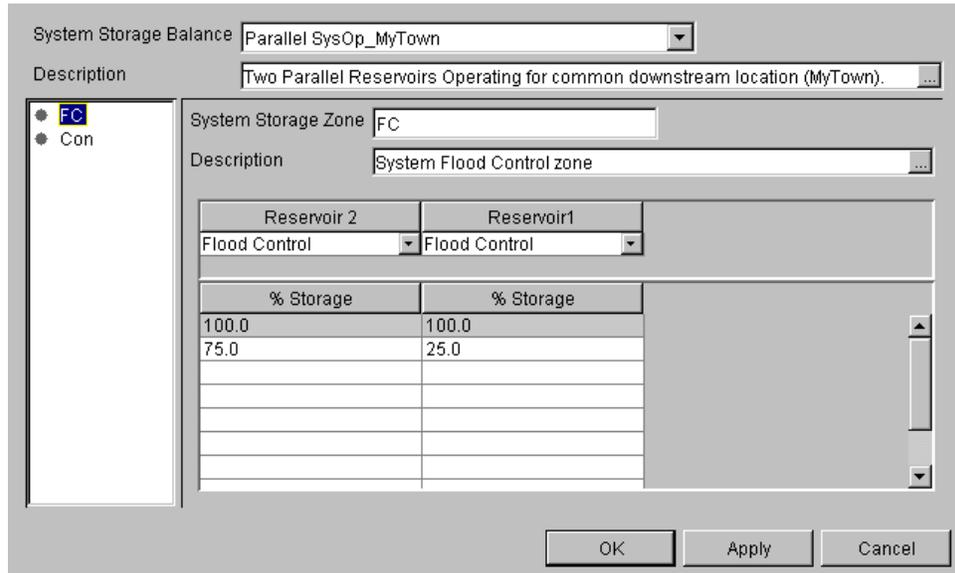

Figure 12.19 Configuring System Storage Balance
When you have defined at least one system storage zone for your reservoir system, its name will appear in the white pane at the bottom left of the **Reservoir System Editor**, and a new set of fields will appear in the large gray area, as shown in Figure 12.19. These new fields allow you to configure the system storage balance for your reservoir system.
Once you have successfully created a new reservoir system (by following the steps presented in Sections 12.5 through 12.8), several new fields become available that allow you to configure the storage balance across reservoirs. We will use Figure 12.19 to illustrate how to do this.
In Figure 12.19, the **System Storage Balance** field indicates we are using a System Storage Balance called “Parallel SysOp_MyTown,” and there are two **System Storage Zones**, “FC” and “Con.”
In Figure 12.19, “FC” is selected, so its name and description appear in the **System Storage Zone** and **Description** fields.
In Figure 12.19, there are two reservoirs in the system and we have chosen the “Flood Control” zone for each reservoir, as shown below:
- Repeat the process for each **System Storage Zone** you have created. For example, in Figure 12.19, once you have configured the “FC” System Storage Zone, you would want to configure the reservoir system balance for the “Con” System Storage Zone.